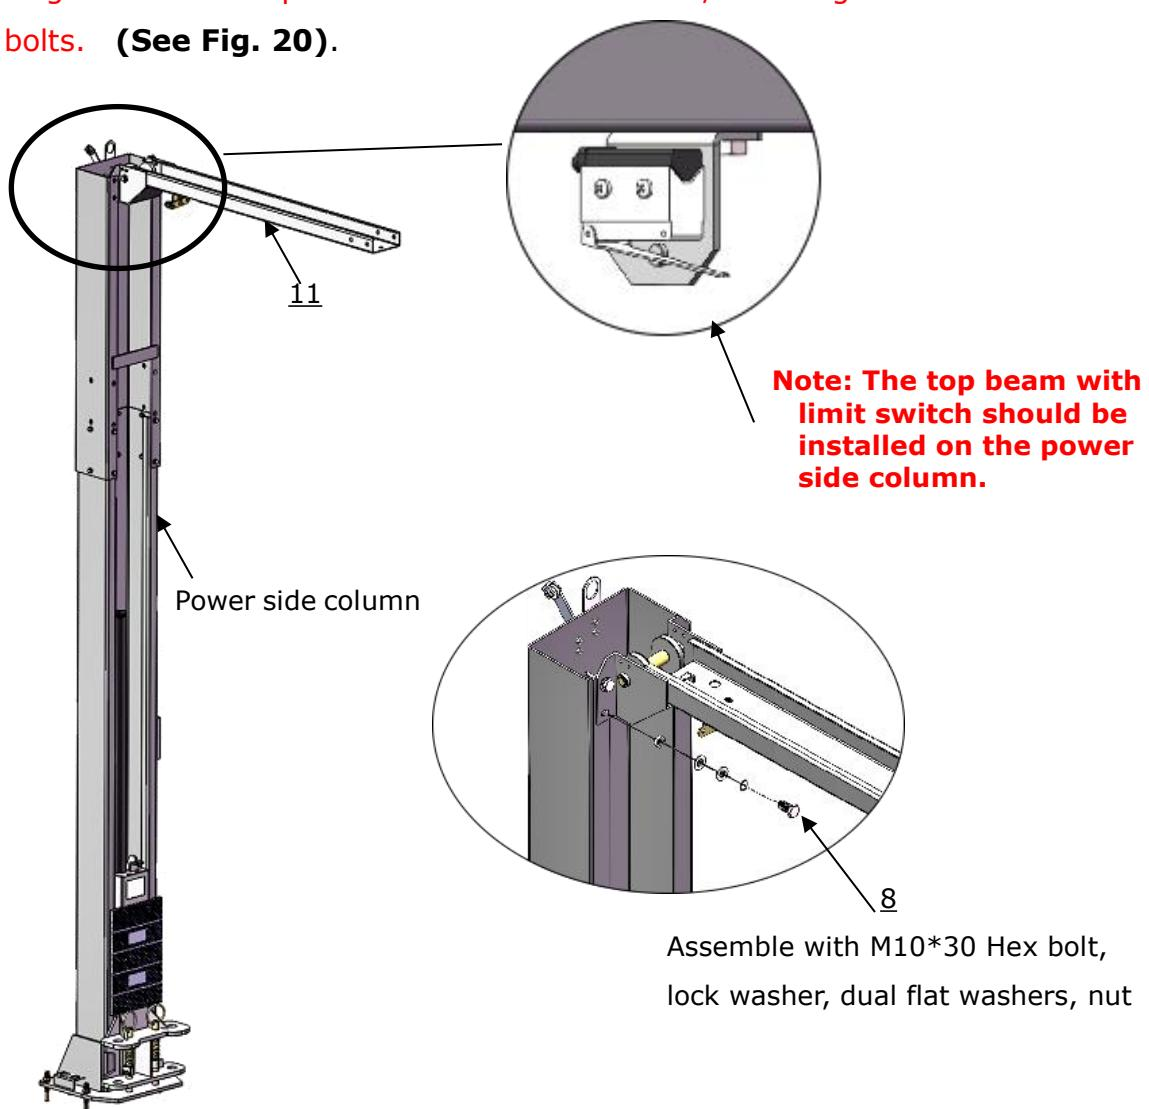

Fig. 20
1. Hang the hook of top beam on the outer column, then align the holes and install the bolts. **(See Fig. 20).**